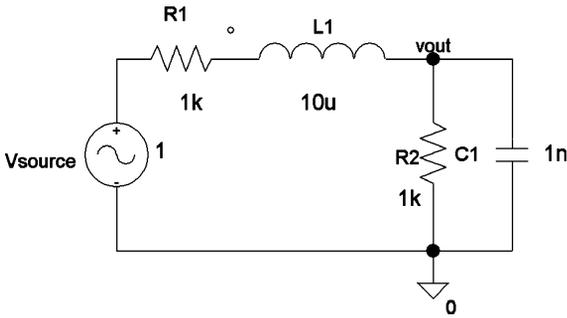

FIGURE 6.48: Series-tuned circuit
- (8) Reduce the circuit in Fig. 6.48 to an equivalent series circuit, by converting the parallel combination of C_1 and R_2 . Hence, show that the resonant frequency is $\omega_0 = \sqrt{\left(\frac{1}{C_1 L_1} - \frac{1}{C_1^2 R_2^2}\right)}$. Calculate the resonant frequency, Q -factor, and the -3 dB Bandwidth for $R_1 = 10 \Omega$, $R_2 = 100 \text{ k}\Omega$, $L_1 = 1 \text{ mH}$, $C_1 = 1 \text{ nF}$. Simulate and compare measured results to the calculated values.